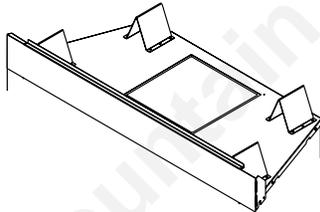

Figure 7.3 Insulated Top Covers
- Place the 12 in. back flue cover with an 8 in. hole over the outer collar and secure with screws removed. See Figures 7.3 and 7.4.